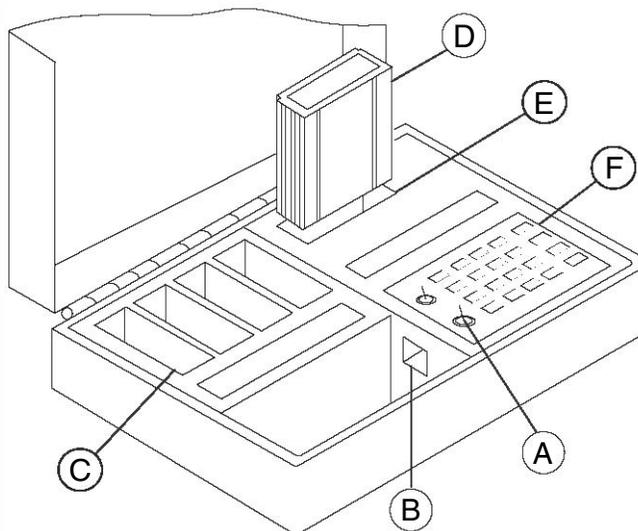

Figure 3: Universal Test Set
1. Place universal test set (fig. 3) on a flat surface. Open case until cover locks into the open position.
2. Make sure test set power is off (O) by checking position of power switch (A, Fig. 3) on keyboard (F).
3. Plug one end of test set power cord into power cord receptacle (B); plug other end into a grounded power source.
4. Insert Self-test Module (D) into module receptacle (E) in upper right corner of test set. Make sure module label is facing keyboard (F). Never use receptacle for storing modules when test set is not in use; use only module holders (C) for storage.
5. Turn power switch (A) to on (I). The red light on self-test module will glow and an identifying message will appear on the display.